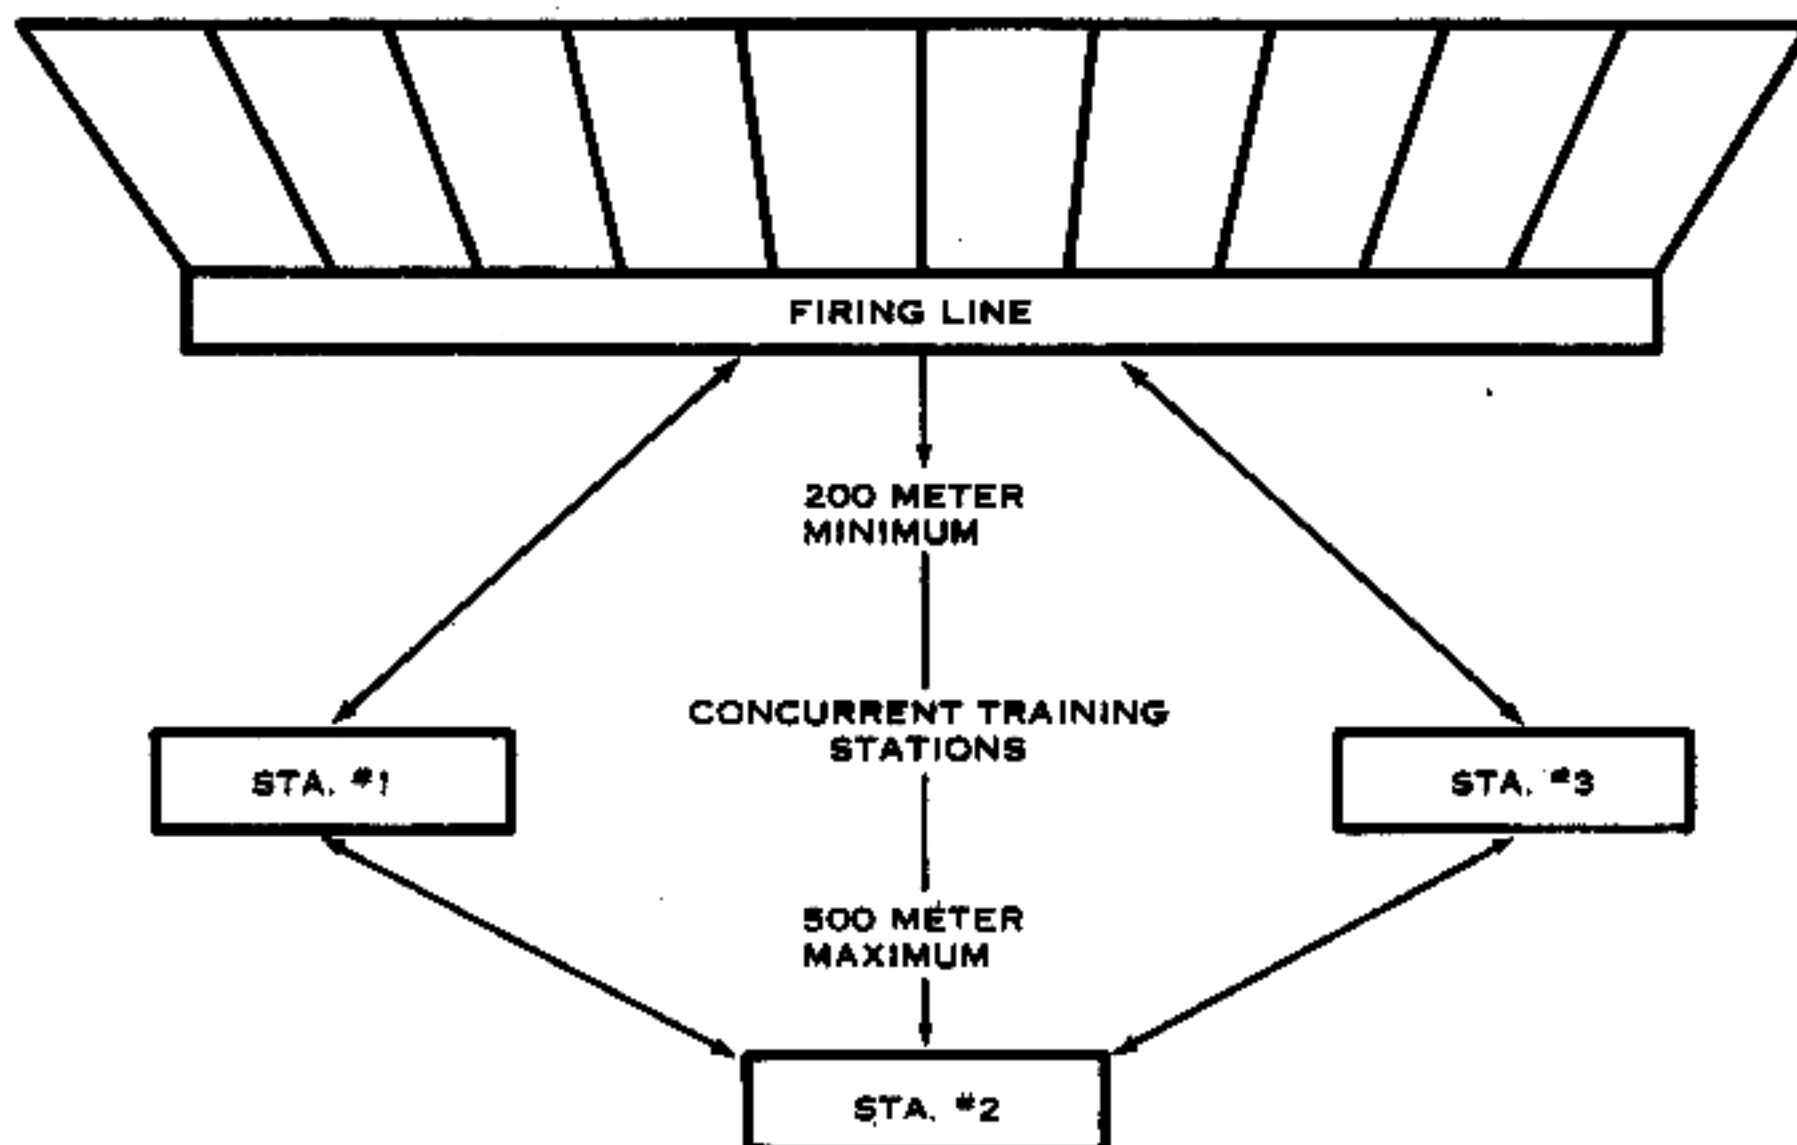

Figure 101. Range organization.
- (1) *Concurrent training.* The county fair system of movement through concurrent training stations is recommended (fig. 101). Subjects covered in concurrent training stations should be limited to subjects relating to machinegunnery. The following are recommended subjects: